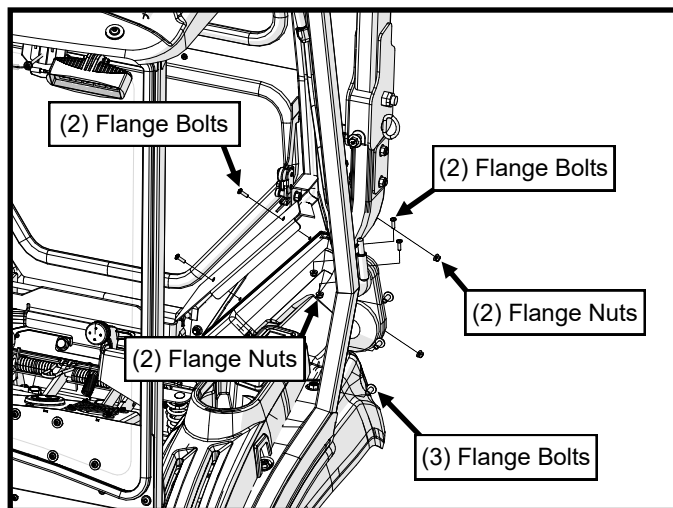

Figure 32: Install Storage Box Shroud
32. Install the plastic storage box shroud from the inside of the cab so as not to disturb the rubber seal along the rear panel. Secure in place with the supplied hardware. See figure 32.